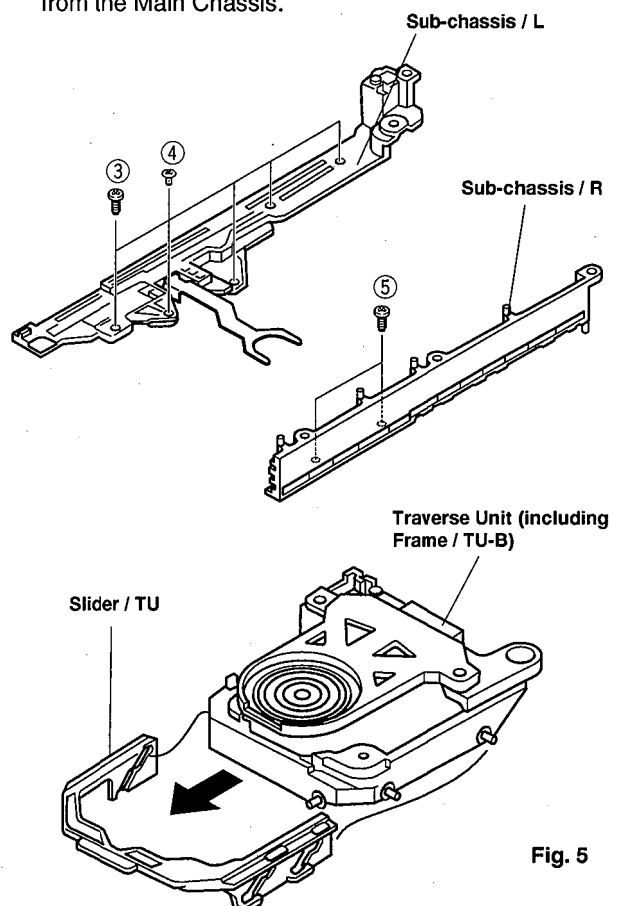

Fig. 5
- Remove 4 screws (③) and 1 screw (④) and then remove the Sub-chassis / L in Fig. 5.
- Remove 2 screws (⑤) and then remove the Sub-chassis / R in Fig. 5.
- Remove the Slider / TU from the Main Chassis as shown in Fig. 5.